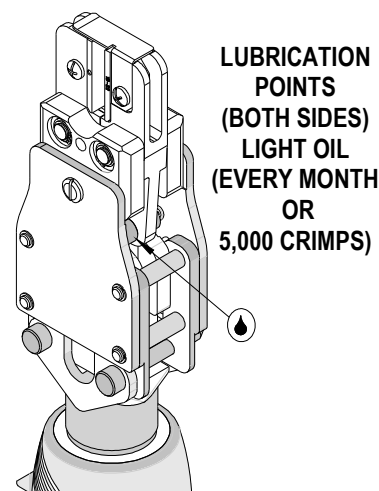

Figure 2-25
9. Make certain all pins, pivot points and bearing surfaces in the tool head are protected with a thin coat of high quality machine oil. Do not oil excessively. Use light oil, such as SAE 30 weight automotive oil, every 5,000 crimps or monthly, will significantly enhance the tool life and ensure a stable calibration. See Figure 2-25 for lubrication points.